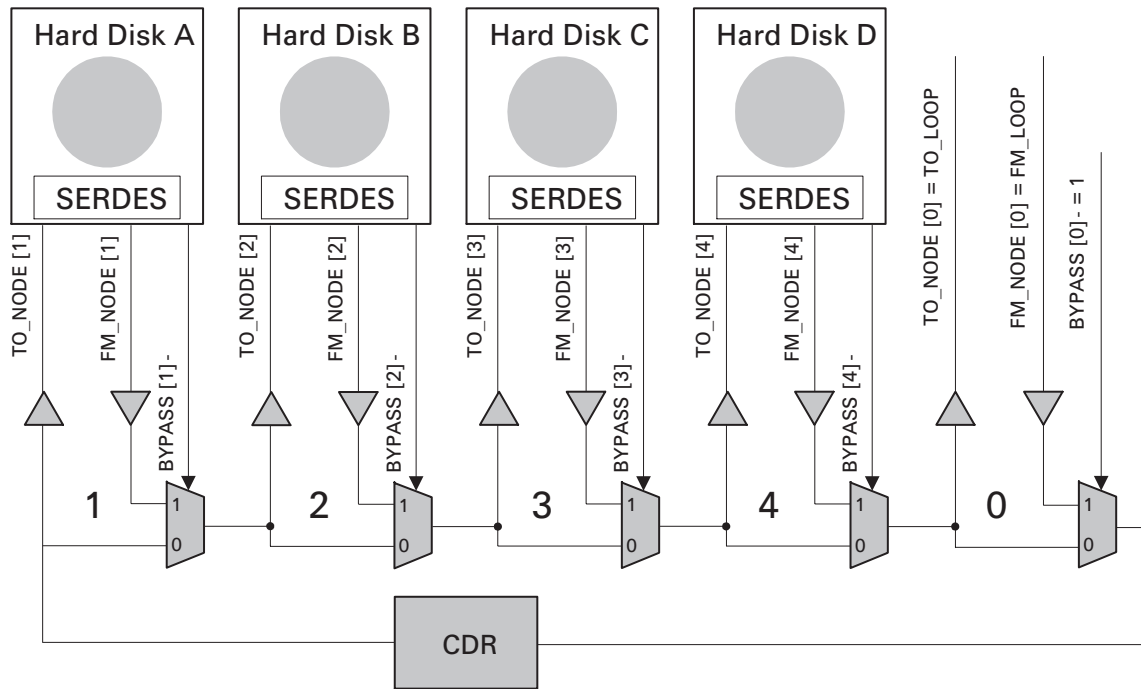
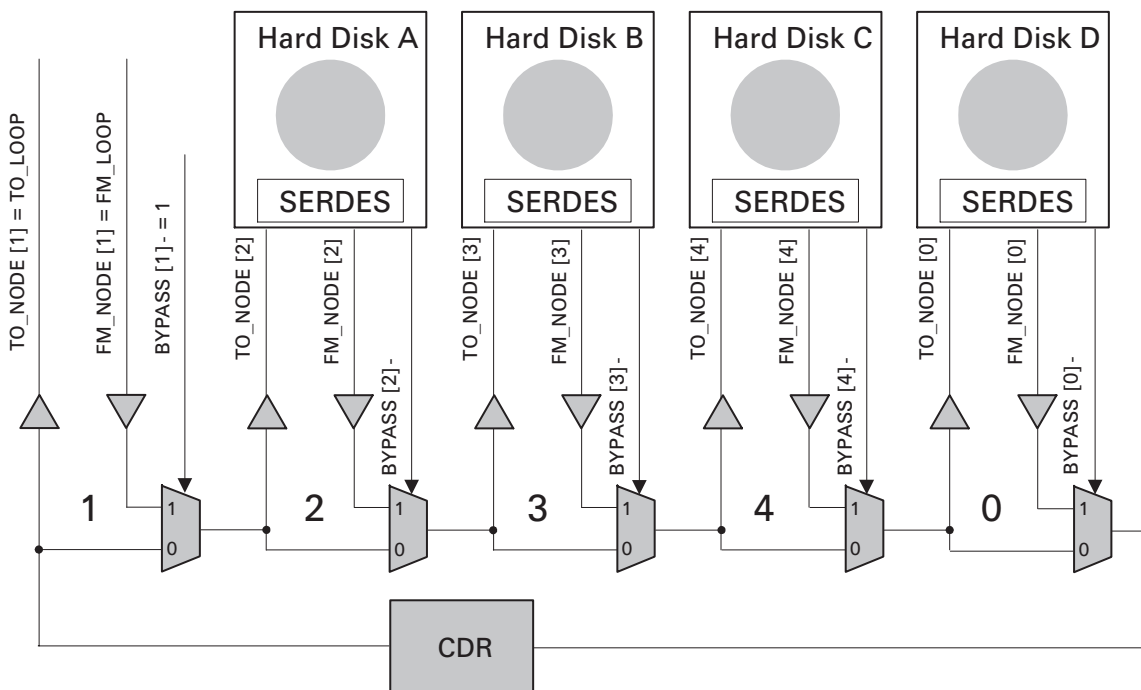

Figure 2 - Connection Diagram for CDR at First Cell
Figure 3 - Connection Diagram for CDR at Last Cell
A PBC consists of multiple 2:1 multiplexers daisy chained along with a CDR. Each port has two modes of operation: “disk in loop” and “disk bypassed.” When the “disk in loop” mode is selected, the loop goes into and out of the disk drive at that port. For example, data goes from the HDMP-0552’s TO_NODE[n] \pm differential output pins to the Disk Drive Transceiver IC (for example, an HDMP-263x) Rx \pm differential input pins. Data from the Disk Drive Transceiver IC Tx \pm differential output pins goes to HDMP-0552’s FM_NODE[n] \pm differential input pins. Figure 2 and Figure 3 show connection diagrams for disk drive array applications. When the “disk bypassed” mode is selected, the disk drive is either absent or non-functional, and the loop bypasses the hard disk.
The design of HDMP-0552 allows for placement of the CDR at any location with respect to hard disk slots. For example, if BYPASS[0]- pin is tied to V_{CC} and hard disk slots A to D are connected to PBC cells 1 to 4 in the same order, the CDR function is performed at entry to the HDMP-0552 (Figure 2). To achieve a CDR function at exit from the HDMP-0552, BYPASS[1]- must be tied to V_{CC} and hard disk slots A to D must be connected to PBC cells 2, 3, 4, 0 in that order (Figure 3). Table 3 shows all possible connections. In case of CDR at entry, a Signal Detect (SD) pin shows the status of the signal at the incoming cable. The recommended method of setting the BYPASS[i]- pins HIGH is to drive them with a high-impedance signal. Internal pull-up resistors force the BYPASS[i]- pins to V_{CC}.